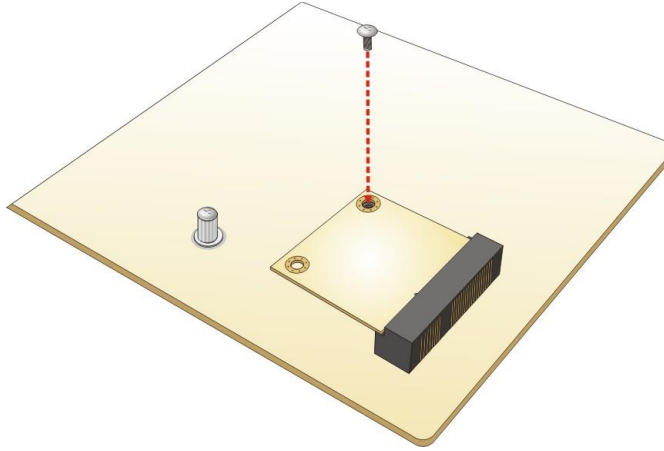

Figure 4-13: Securing the Half-size PCIe Mini Card
Step 4: Secure the half-size PCIe Mini card. Secure the half-size PCIe Mini card with the retention screw previously removed (**Figure 4-13**).